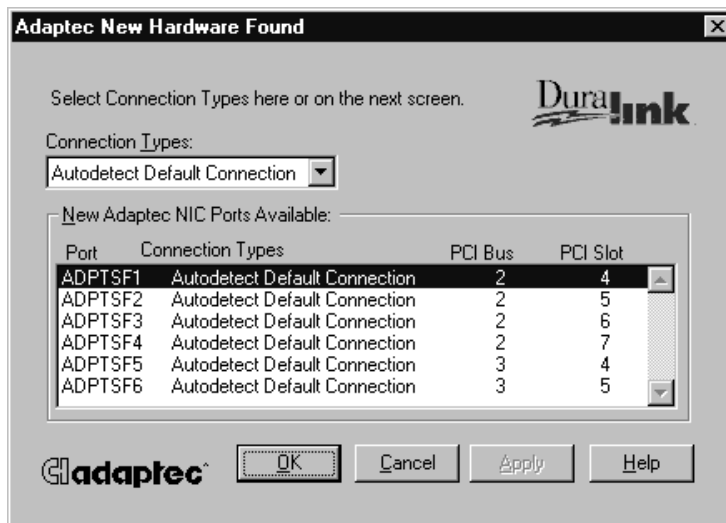

Figure 9-5. Ports Found on the DuraLAN NIC
- 1 Select the port you wish to configure from the list of ports, such as shown in Figure 9-5.